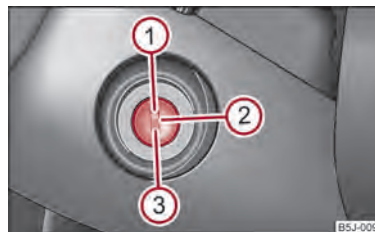

Fig. 82 Ignition lock positions
- The engine can be switched off by turning the ignition key from position  → fig. 82 into position .